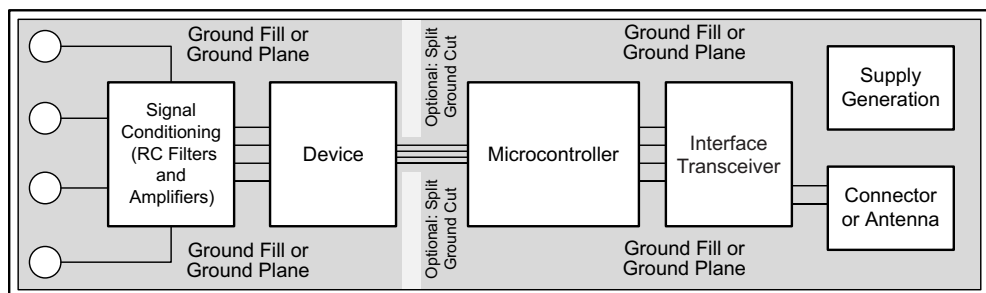

**Figure 78. System Component Placement**
Use best design practices when laying out a printed-circuit board (PCB) for both analog and digital components. This recommendation generally means that the layout separates analog components [such as ADCs, amplifiers, references, digital-to-analog converters (DACs), and analog multiplexers (MUXs)] from digital components [such as microcontrollers, complex programmable logic devices (CPLDs), field-programmable gate arrays (FPGAs), radio frequency (RF) transceivers, universal serial bus (USB) transceivers, and switching regulators]. An example of good component placement is shown in Figure 78. Although Figure 78 provides a good example of component placement, the best placement for each application is unique to the geometries, components, and PCB fabrication capabilities employed. That is, there is no single layout that is perfect for every design and careful consideration must always be used when designing with any analog component.